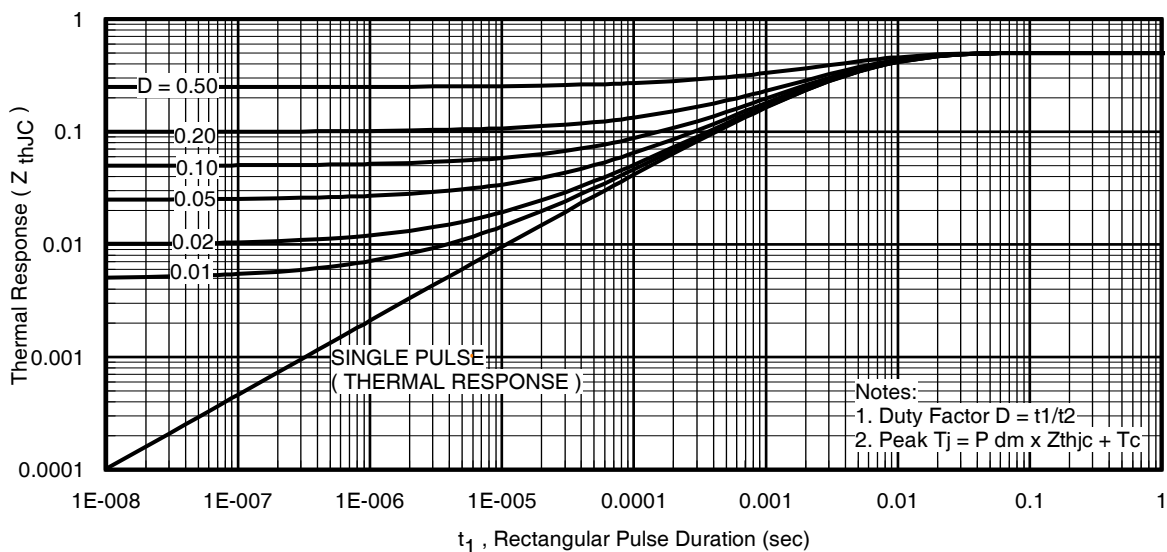

Fig 11. Maximum Effective Transient Thermal Impedance, Junction-to-Case
- ① Repetitive rating; pulse width limited by max. junction temperature. (See fig. 11).
- ② Limited by T_{Jmax} ; starting $T_J = 25^\circ\text{C}$, $L = 0.24\text{mH}$, $R_G = 25\Omega$, $I_{AS} = 75A$, $V_{GS} = 10V$.
$Z_{thJC}(D, t_{av})$ = Transient thermal resistance, see figure 11)